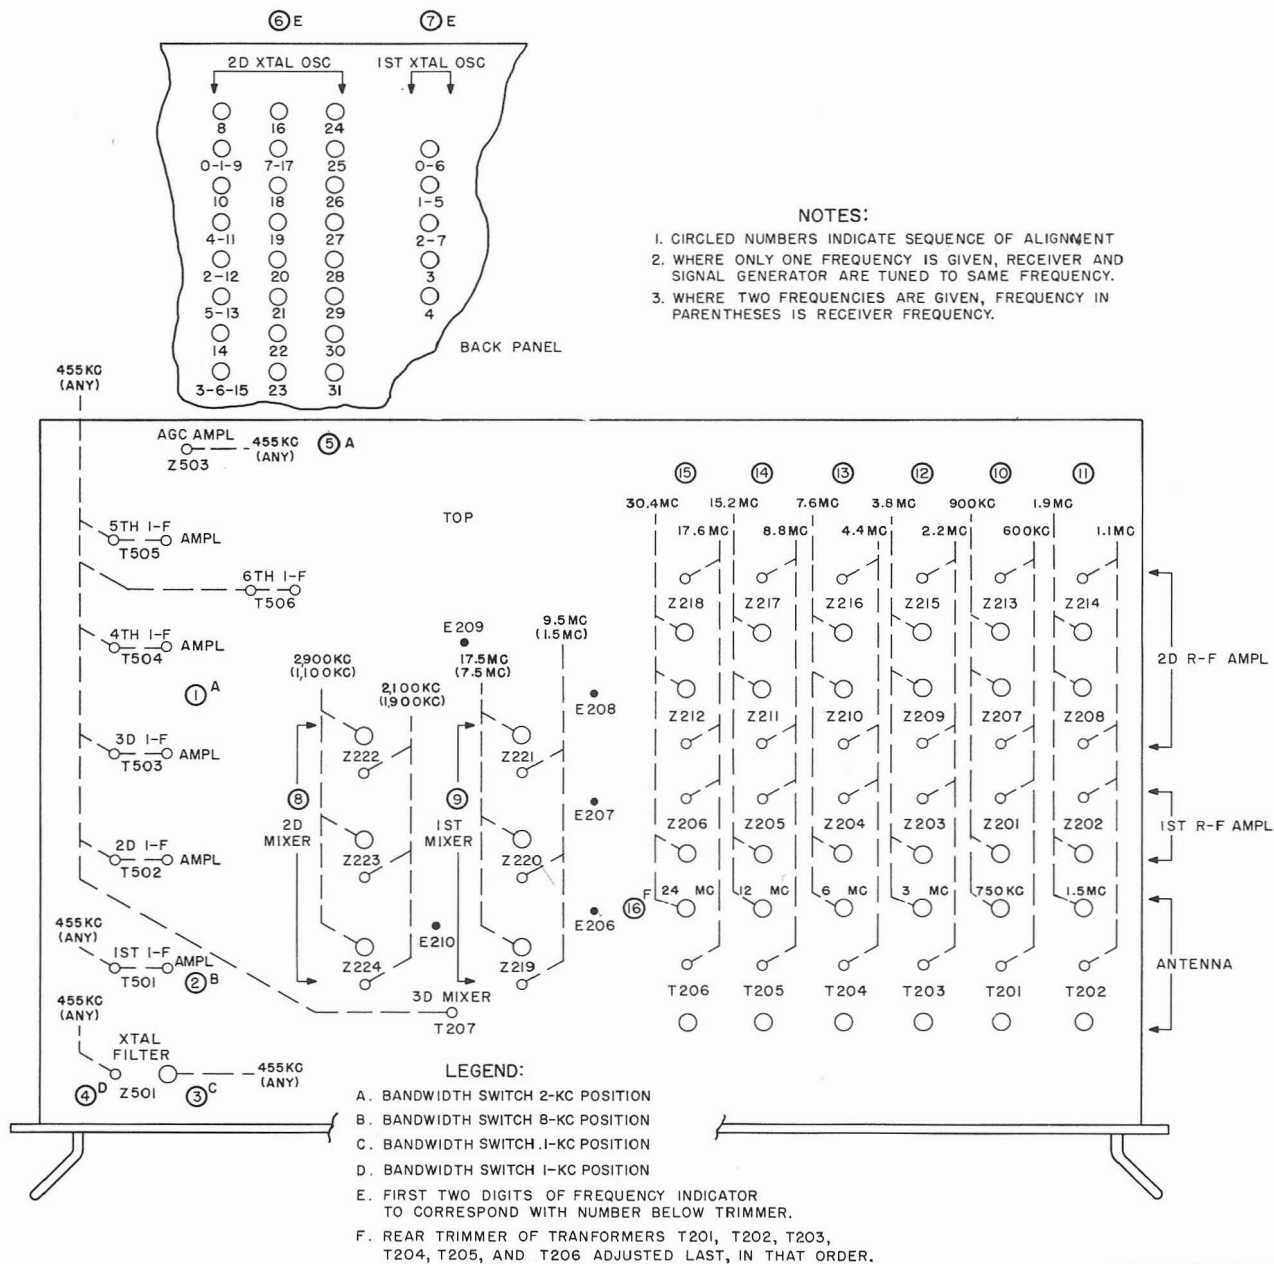

Figure 45. Alignment points.
### 76. Alignment of 455-Kc If. Stages (fig. 45)
a. Adjust the TS-505(\*)/U to measure negative dc volts and connect it between test point E209 (fig. 45) (grid of second mixer V204) and ground.
e. Screw the slug of T402 (fig. 23) out until only one peak reading on the TS-505(\*)/U can be obtained, while turning trimmer capacitor 31 (fig. 45 and 46) throughout its entire range.
(fig. 45)